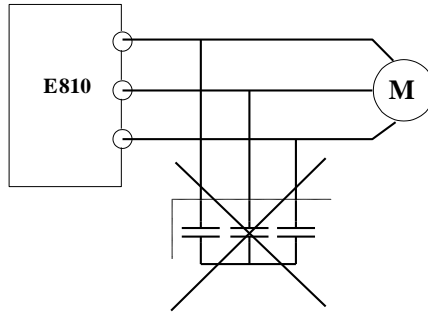

Fig 1-8 Capacitors are prohibited to be used.
- Do not connect any varistor or capacitor to the output terminals of the drive, because the drive's output voltage waveform is pulse wave, otherwise tripping or damaging of components may occur; in addition, do not install circuit breaker or contactor at the output side of the drive as shown in Fig 1-8.